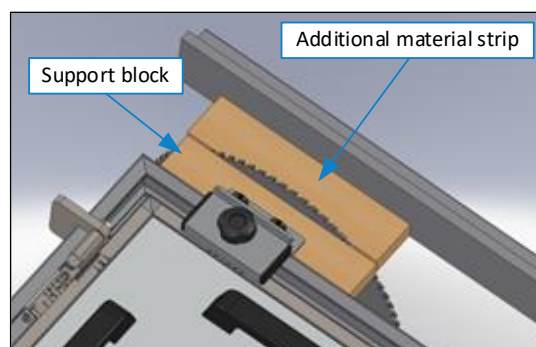

Figure 3: Adjusting the DSG-D (3)
6. Carefully push the fence with the support block up to the saw blade (refer to ⇒ Figure 3).